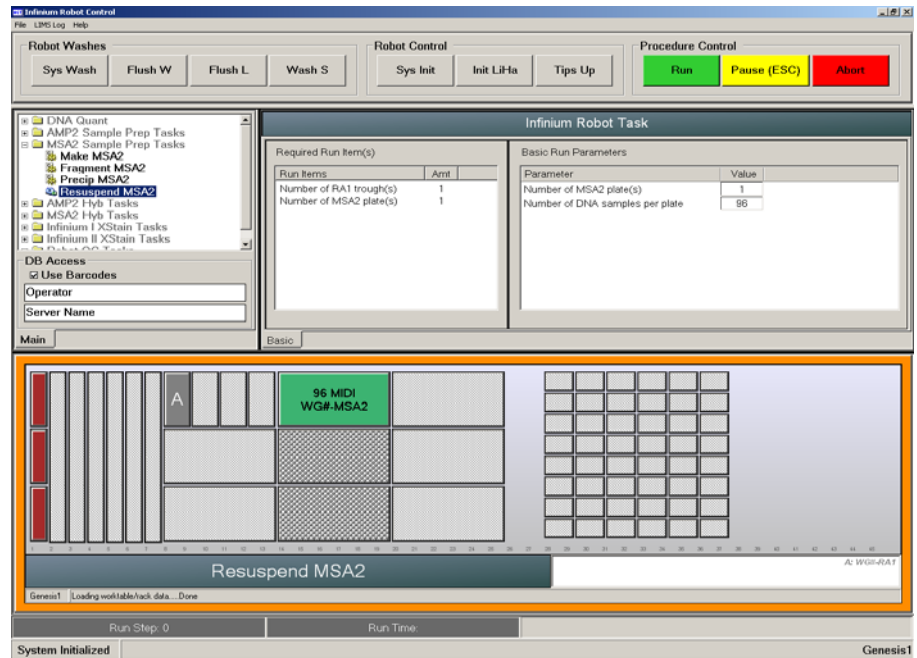

Figure 107 Resuspend MSA2 Screen
4. Place the MSA2 plate on the robot bed according to the bed map (Figure 107).